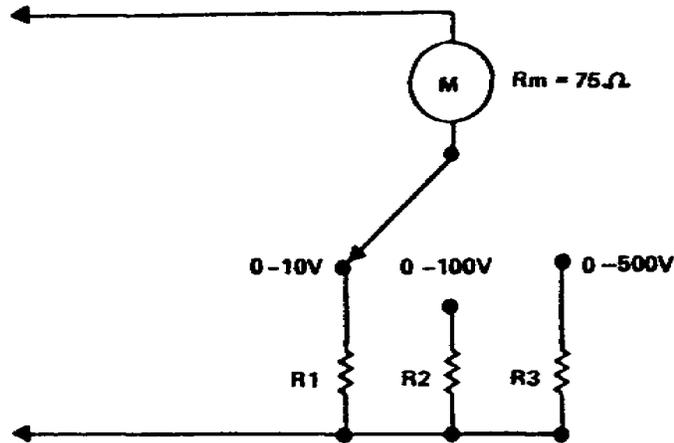

Figure 1-15. Determining multipliers
a. For this discussion, we can use the same meter as used for the ammeter. The meter sensitivity is 1 milliampere and coil resistance is 75 ohms. Assume we need to determine the correct multipliers for ranges of 0 to 10 volts, 0 to 100 volts, and 0 to 500 volts (fig 1-15). Since 1 milliampere causes a full-scale deflection, the total resistance of the meter (R_1+75) must be such that the voltage across it is 10 volts (0-to 10-volt range) when 1 milliampere current is flowing. Thus: